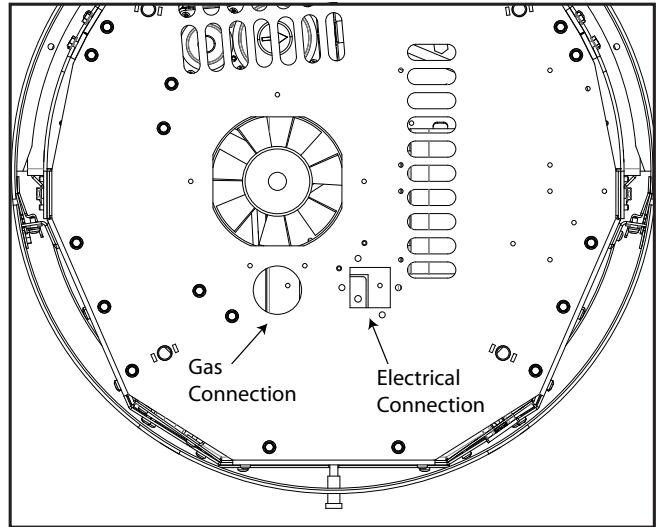

Figure 78: Gas & Electrical Connection Points (Bottom View)
4. Rewire the IEC electrical outlet and position over the hole shown in Figure 78.